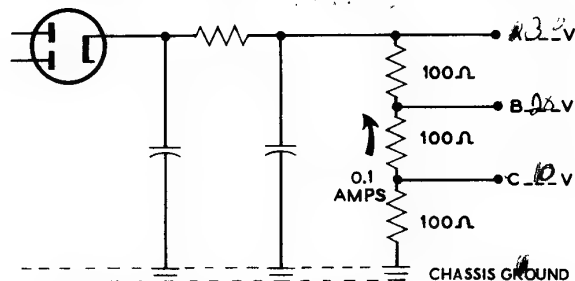

Figure 2P
8. In Figure 2P use ohms law to calculate and fill in the three voltages on the voltage divider.